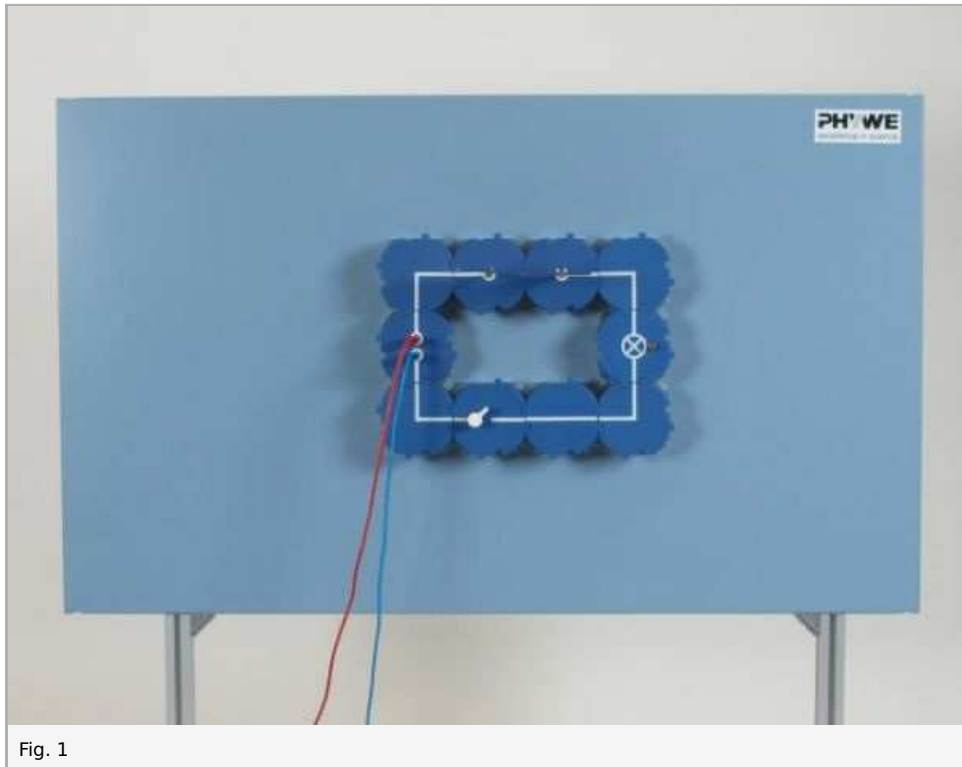

Fig. 1
- Connect up the circuit as shown in Fig. 1; use the connecting plugs to fit the crocodile clips to the junction module sockets; clamp the bimetallic strip tightly with the right-hand crocodile clip, with the patterned side of the strip facing down; switch on the power supply and adjust it to 12 V rated voltage.
- Close the switch and use a flame to carefully heat the bimetallic strip in the vicinity of the clamped end, then allow it to cool. Observe the bimetallic strip and the lamp (1).
- Close the switch and carry out the heating procedure as in the first part of the experiment (2).